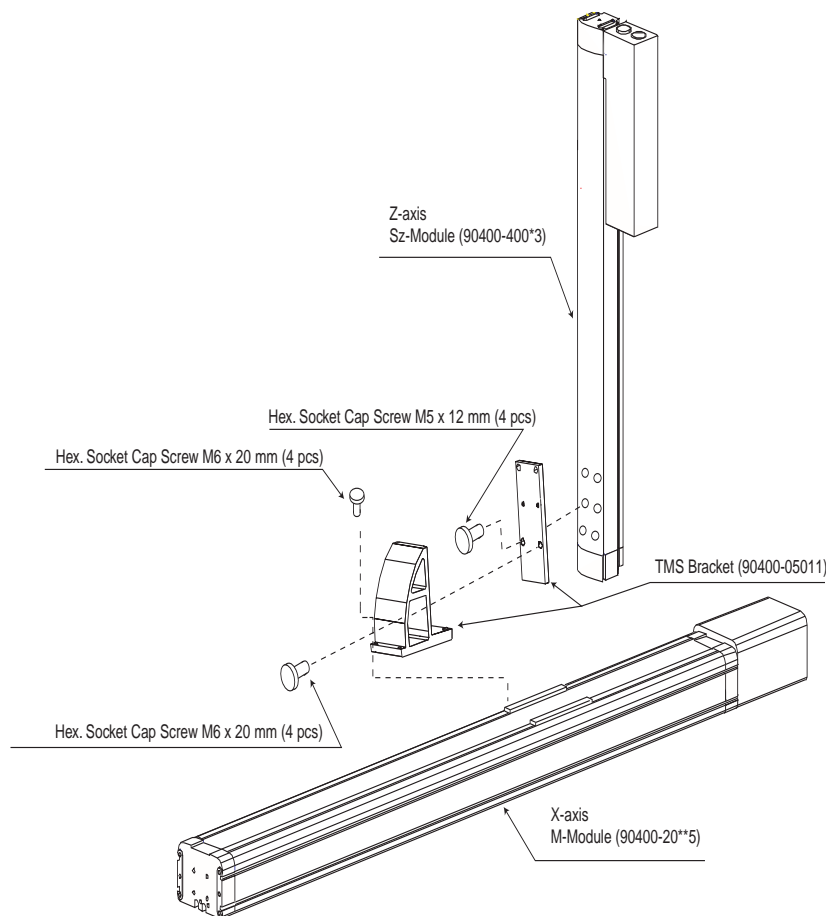

Figure 4-47. T-Type Mechanical Assembly
5. Mount the Z-axis with plate bracket by aligning the pins on the L shaped combining bracket through the holes on the plate bracket. Carefully mate the pins and pin holes to avoid damaging the pins. Install the mounting bolts (see Figure 4-47, and refer to Table 3-3 for the mounting bolt specifications).